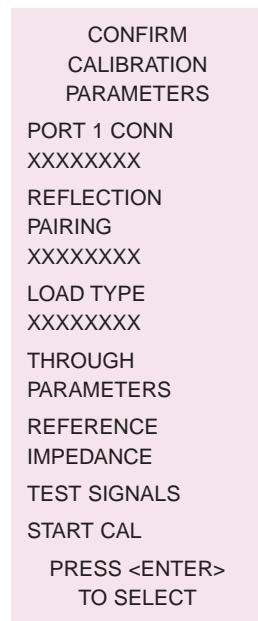

Figure 11
- **Step 5a:** If the Standard (OSLT) method was chosen, select **PORT 1 CONN** from the **CONFIRM CALIBRATION PARAMETERS** menu (Figure 11).